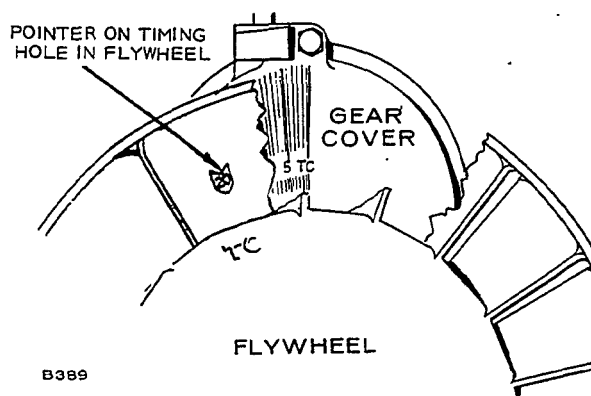

FIGURE 13. FLYWHEEL TIMING HOLE
2. Start the engine and check the timing. The pointer on the flywheel should line up with the 21-degree mark on the cover. The timing hole through the flywheel and the timing marks on the timing gear cover can be seen by looking through the flywheel blower screen. See Figure 13.